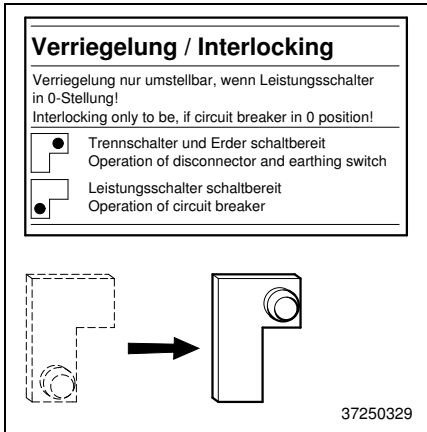

Fig. 48
**5** Deactivate the interlock between the circuit-breaker and the disconnector or earthing switch respectively. Do this by moving the operating lever from the bottom left to the top right position (Fig. 48) (see also Chapter 4.9, "Panel Interlocks").